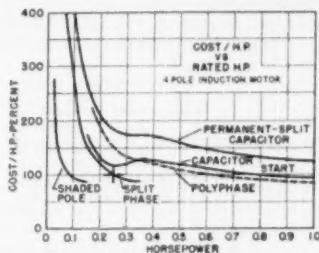

FIG. 17 RELATIVE COSTS OF INDUCTION MOTORS VERSUS RATING
The cost per horsepower of the usual motor types is presented in Fig. 17. The bench mark of 100 per cent is taken for the split-phase general-purpose motor ($\frac{1}{4}$ hp) which, of all types, is the one in largest production. It is observed that minima exist in two curves. This is real and is due to the influence of standard sizes and differing production rates. The costs shown represent full motors, but are reasonably proportionate for built-in parts (i.e., stator and rotor) as well. The costs of motors over 1 hp have been published in a recent periodical (11).